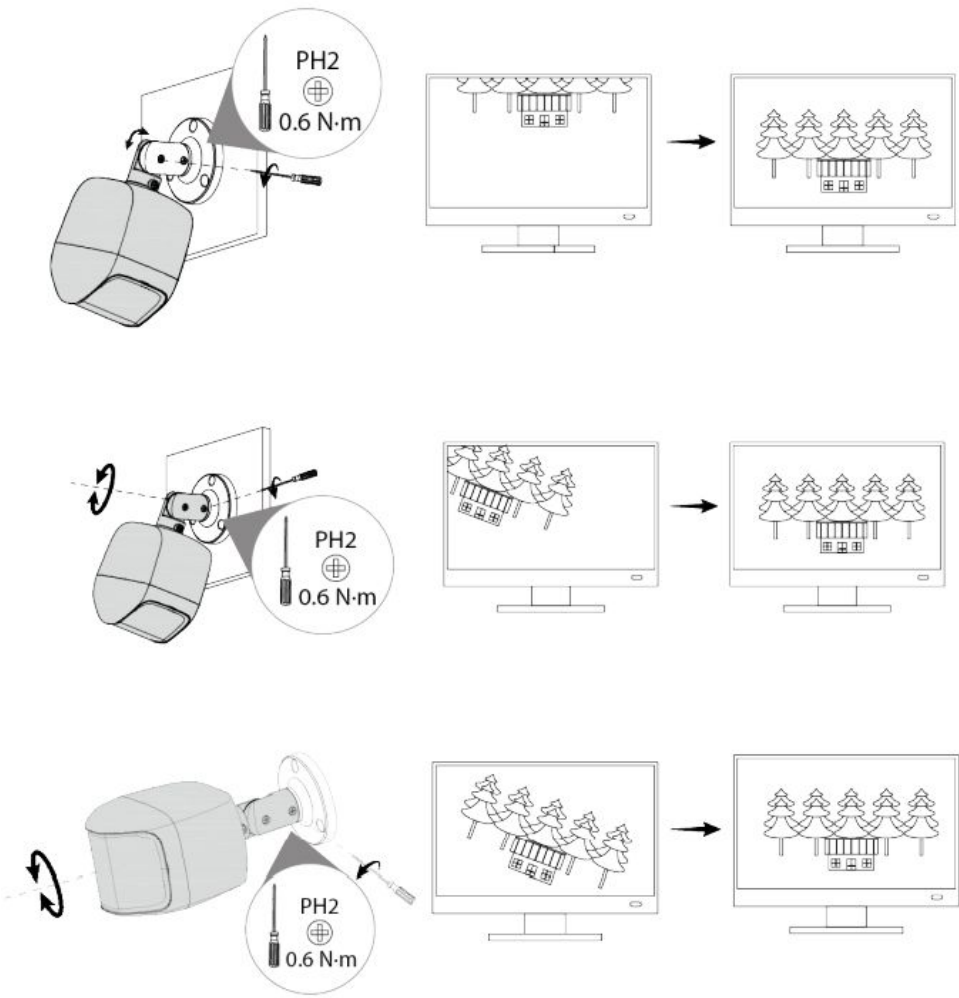

Figure 2-6
**Adjusting the Lens Angle:** See figure 2-6.